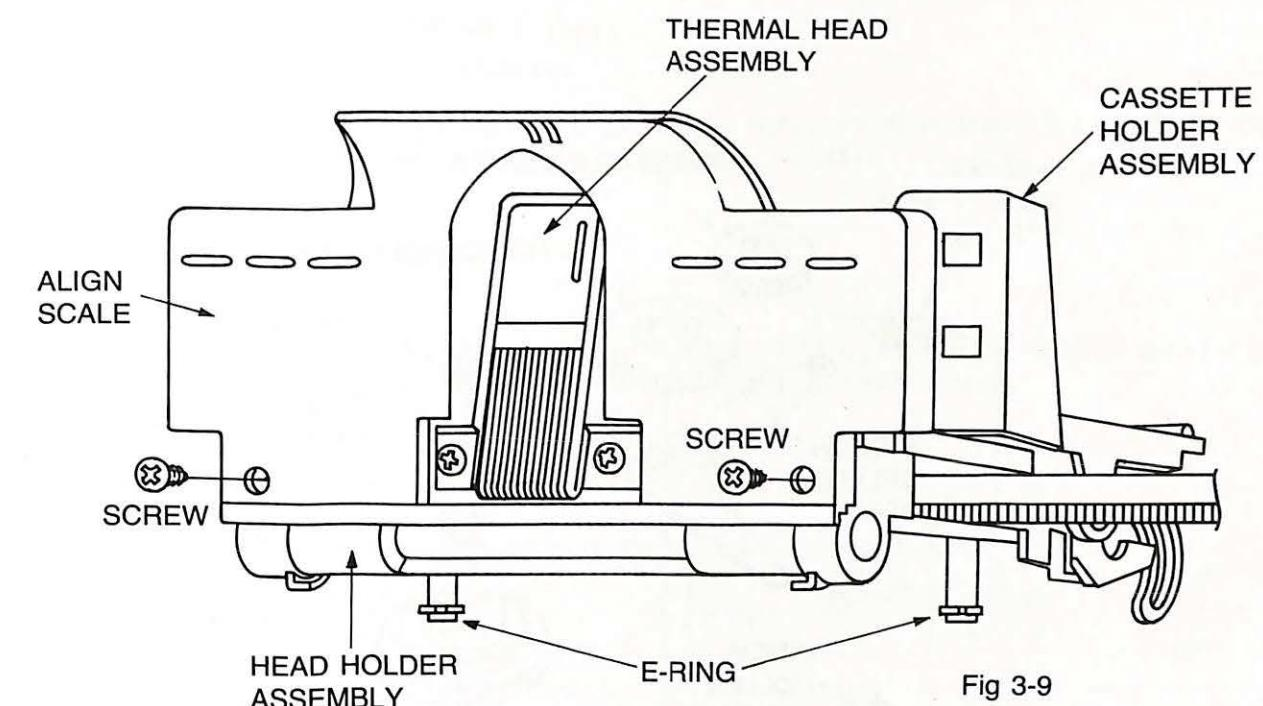

Fig 3-9
- (1) Remove the two screws and then the align scale. (Fig. 3-9)
- (2) Remove the two E-rings from the cassette holder shaft, and then lift the cassette holder up. (Fig. 3-9)